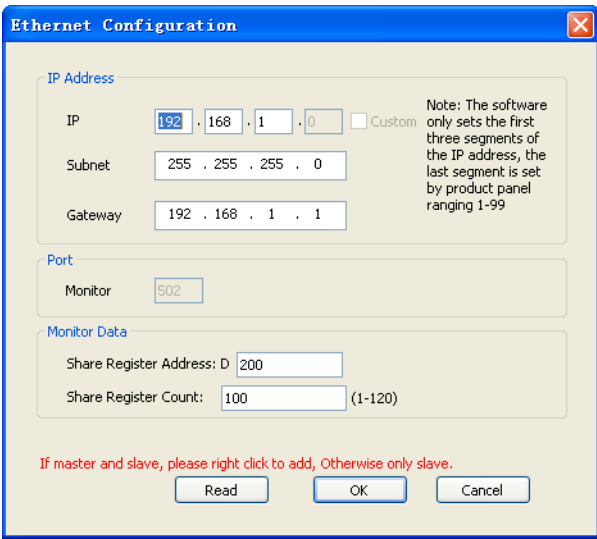

Figure 7 IP Address Setting
- » AutoShop software setting, as shown in figure 7.
As the initial address of the shared register set in the figure 7 starts from D 200, HMI can access 100 addresses starting from D 200, and write addresses after hexadecimal conversion.